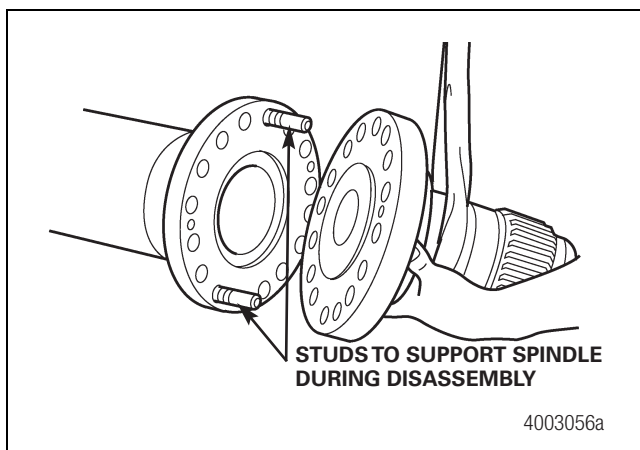

Figure 3.19
3. Before you remove the last brake assembly capscrew, install two 5/8-inch-11 studs, or capscrews with the heads removed, into the housing 180 degrees apart to support the spindle and brake during disassembly. Figure 3.19.